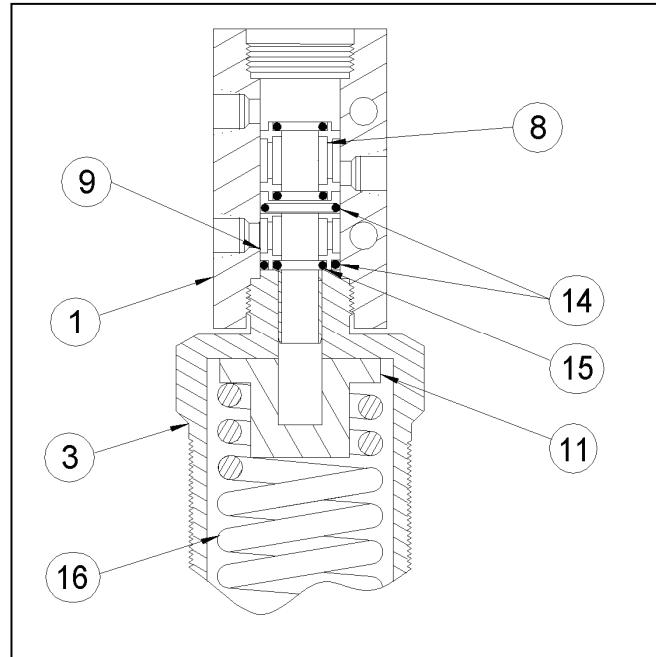

Figure 4
14. Carefully slide the center sleeve (item 8) into the bore in of the body. When it reaches the outer o-ring (item 14) laying on the end sleeve (item 9) press the center sleeve to seat the o-ring. (See Figure 4)